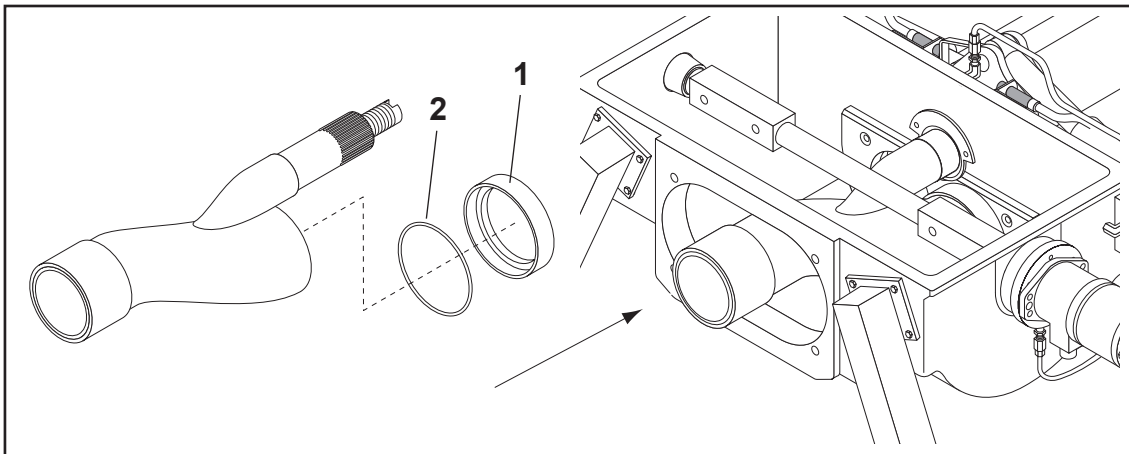

FIG.62
- Install the wear disc (FIG. 62-REF. 1) with the O-ring (FIG. 62-REF. 2) on the S-valve.